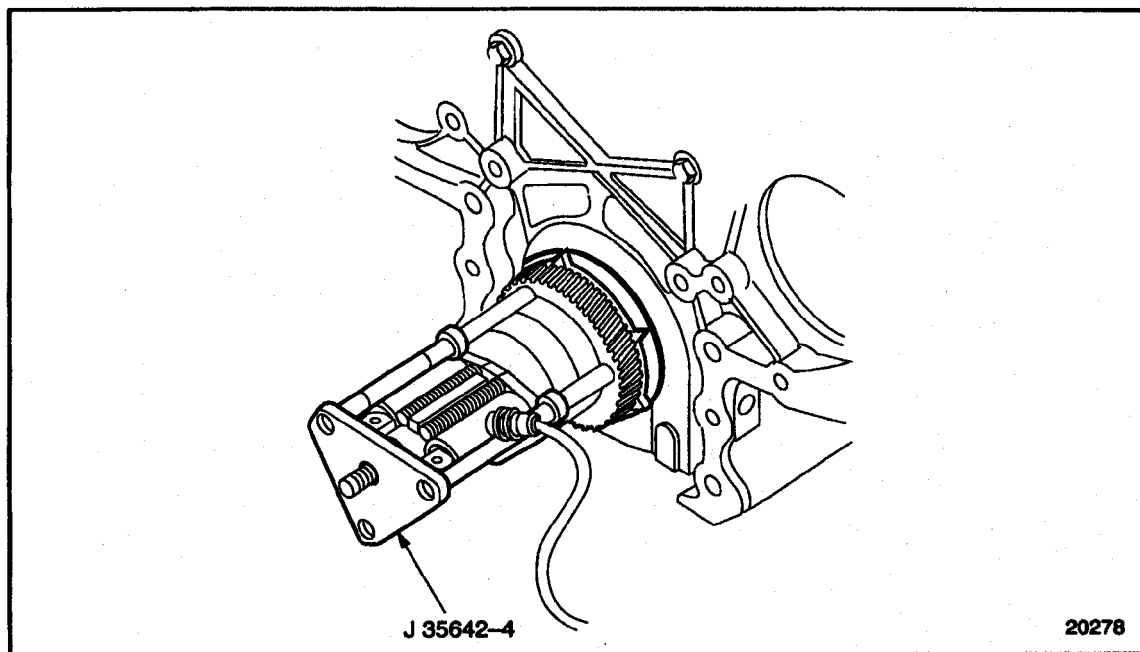

Figure 1-388 **Pressure Plate Installation**
13. Install J 35642-4 part of J 35642, to the three guide studs, J 35642-2 part of J 35642 . See Figure 1-388.
- [d] Remove J 35951-175. See Figure 1-388.